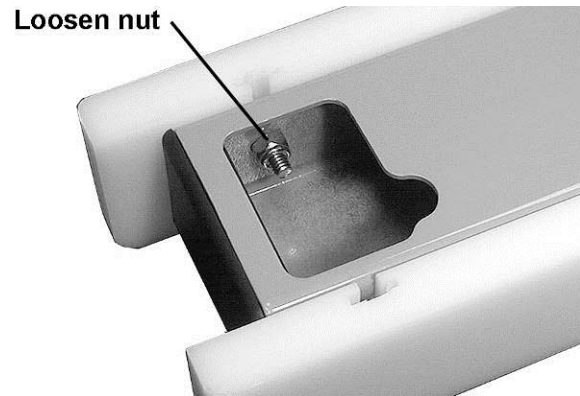

Figure 20
- Note:** A socket wrench can fit into the slot, and will speed the process (Figure 20).